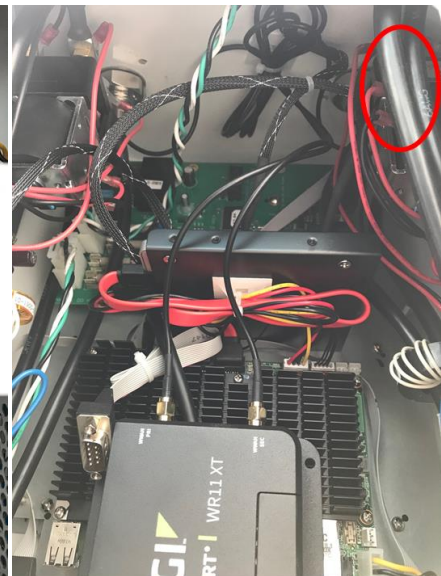

Figure 1.3
- 1.3. Remove the right antenna only by removing the nut holding it in place as shown in **Figure 1.3**.